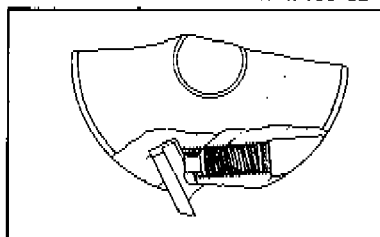

FIG. 7
2. Place the blades and wedges in the cutter head so that the set screws will tighten against the crown in the wedge (see Fig. 7) which in turn clamps the blade in place. The bevel on the blade should be on the side away from the set screws and wedge. Tighten the set screws only enough to grip the blades lightly, yet allow moving of the blades for proper setting.